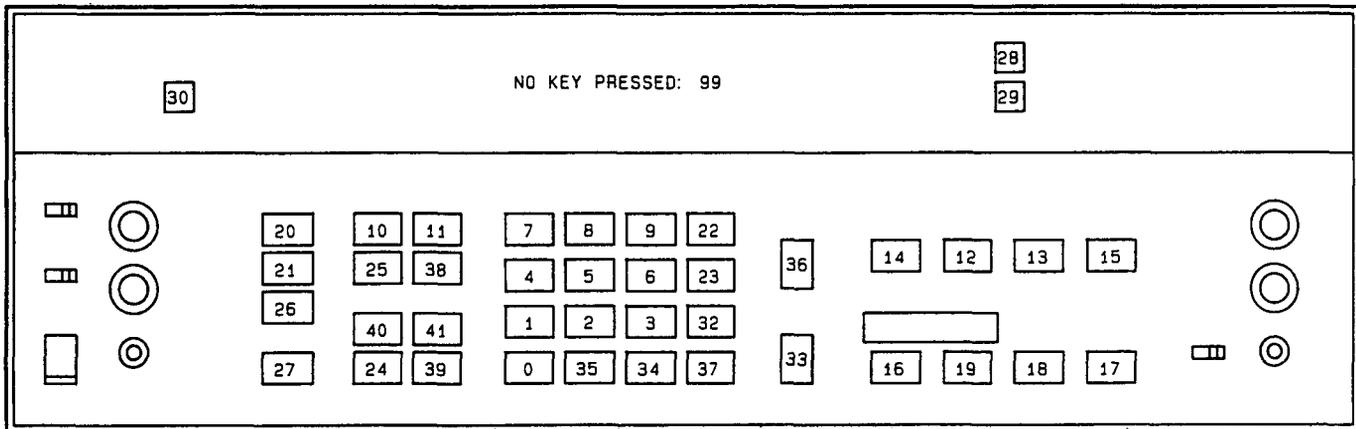

Figure 8D-2. Key Codes for Special Function 60.0, $\sqrt{5}$ Step 3
3. Press the keys one at a time and compare the display with the key codes shown in Figure 8D-2. If a code other